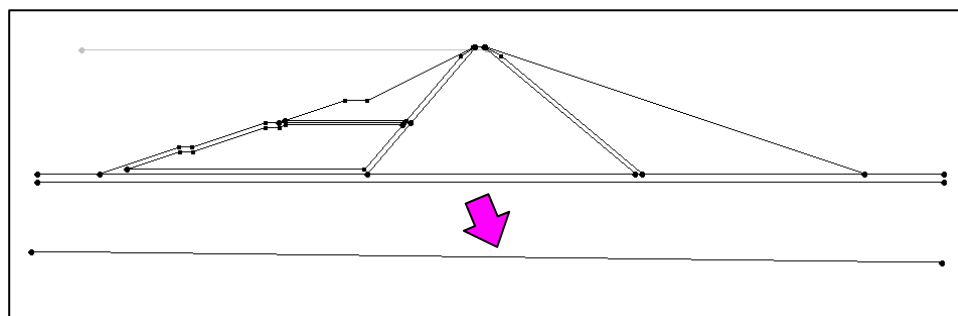

Figure 7. Drawing the bottom arc.
2. Create a somewhat horizontal arc somewhere below the dam, as shown in Figure 7 below. Don't worry about making the line perfectly horizontal or the exact coordinates of the endpoints.